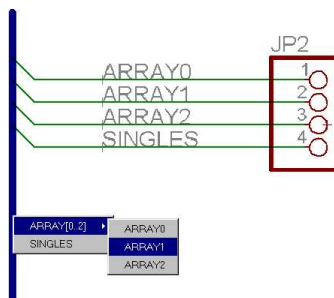

Figure 2.7: Popup menu showing bus names.
6. **Connect the NETS to the BUS.** Use the NET command and link all the pins on each pin header to the bus. *Start from the bus*, which will bring up a list of available nets; choose the appropriate net and then connect it to the pin header. Ensure that each net connects to the bus with a “bus entry”, or diagonal line as shown in Figure 2.7. Use the right mouse button to alternate between orthogonal and diagonal modes of drawing NETS.